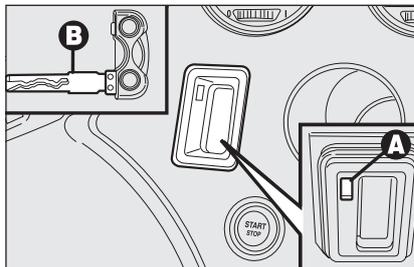

fig. 8
- fit the metal insert **B-fig. 8** of the electronic key into the slot **A**;
IMPORTANT Do not fit into the slot **A-fig. 8** objects other than the metal insert **B** of the electronic key.